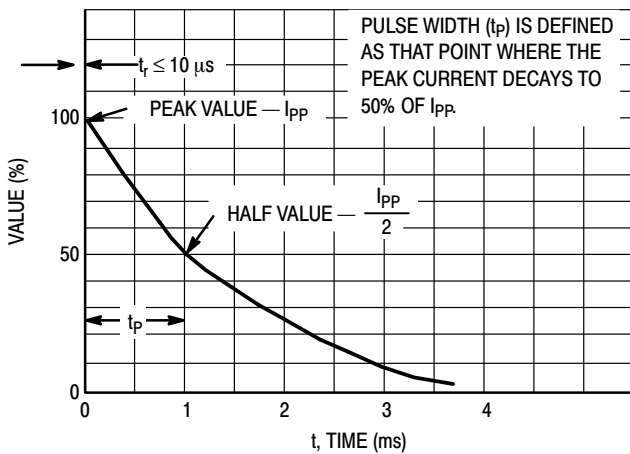

Figure 5. Pulse Waveform
1. Nonrepetitive current pulse per Figure 5 and derate above $T_A = 25^\circ\text{C}$ per Figure 6.
5. Surge current waveform per Figure 5 and derate per Figure 6